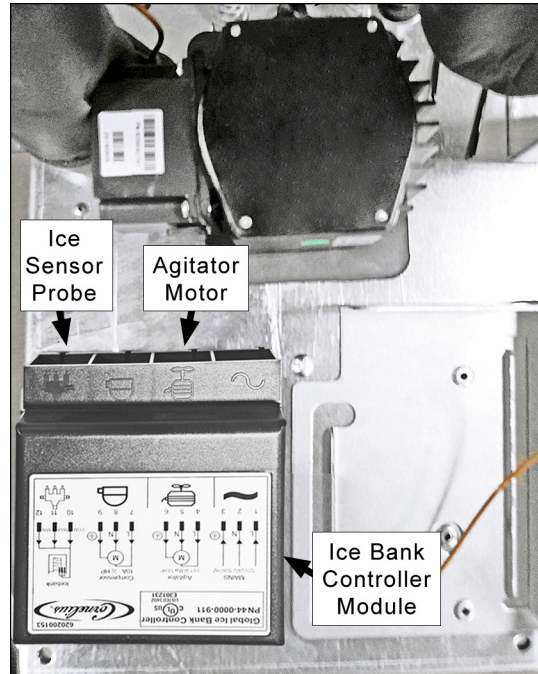

Figure 6-14 - Agitator Wiring Socket on Controller Module
4) Unplug the agitator-motor wiring plug from the ice bank controller module socket (Fig. 6-14).